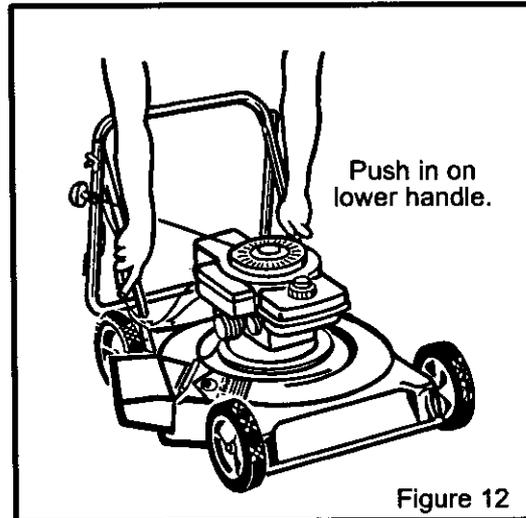

Figure 12
1. Loosen the knobs that hold the upper part of the handle to the lower part of the handle. As you fold the handle, make sure the cables are not around the loose fasteners and do not become damaged. Rotate the upper part of the handle toward the back of the unit (Figure 12).